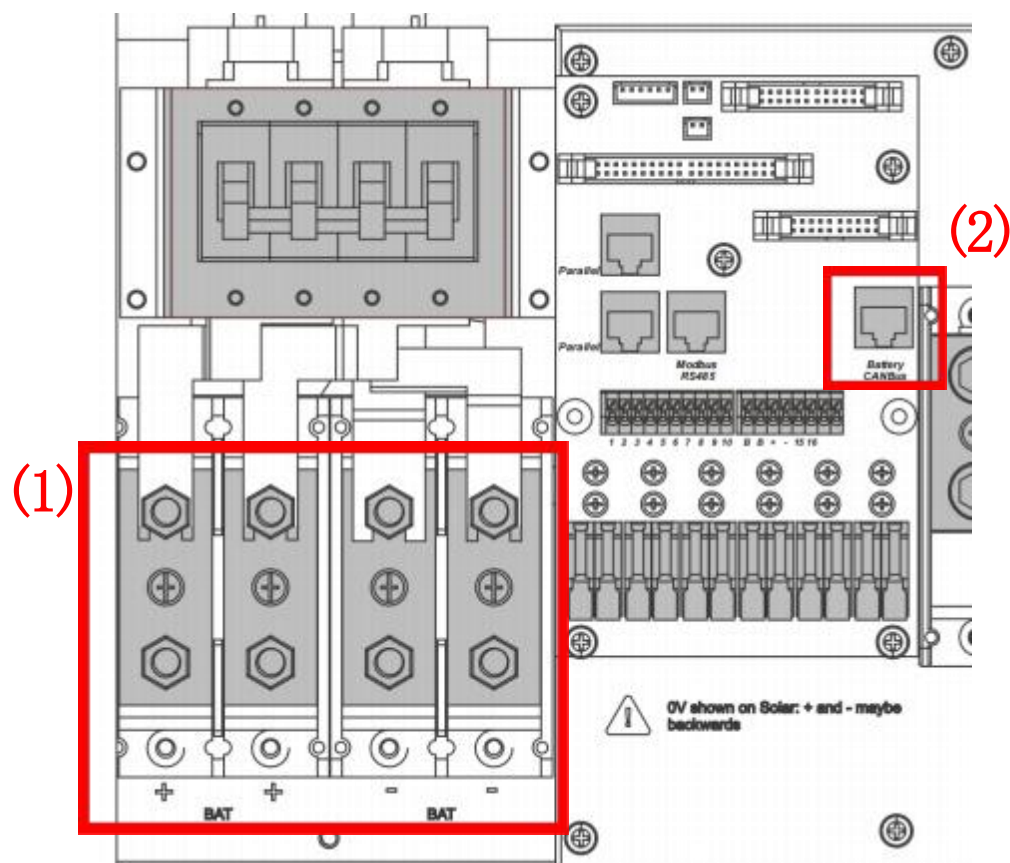

Figure 1.1
1. Connect the power cables between inverter and battery or the Busbar. The battery connector is (1) shown in figure 1.1
2. Plug in the battery end into the **CAN port** of the Pytes battery (Check page 2) and plug in the inverter end into Sol-Ark Battery **CANBus** Port (2) as shown .